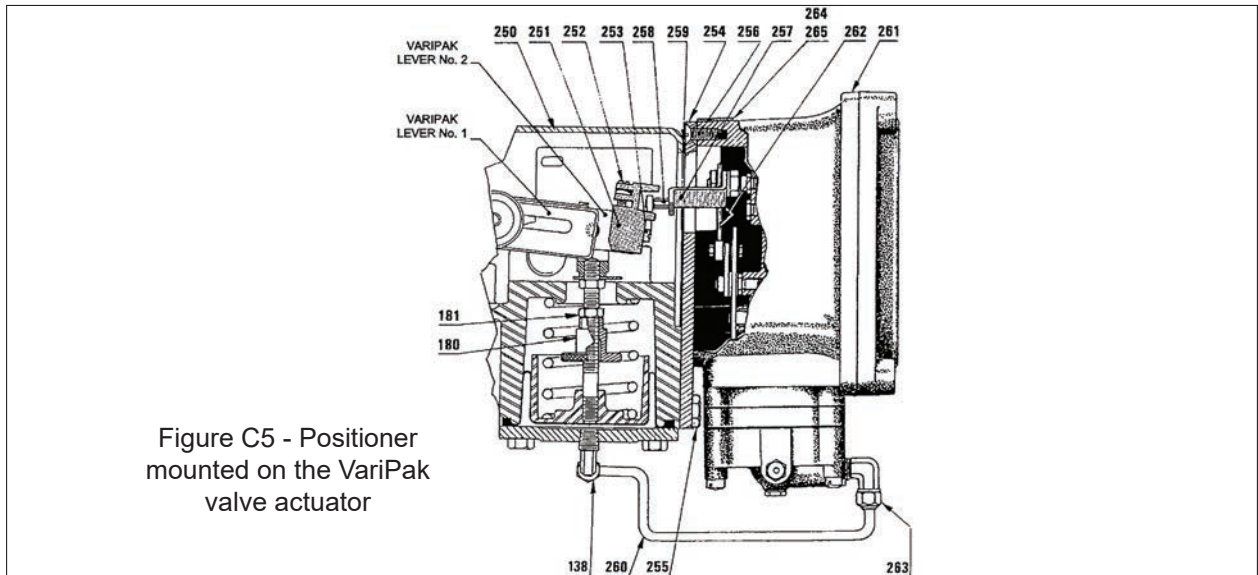
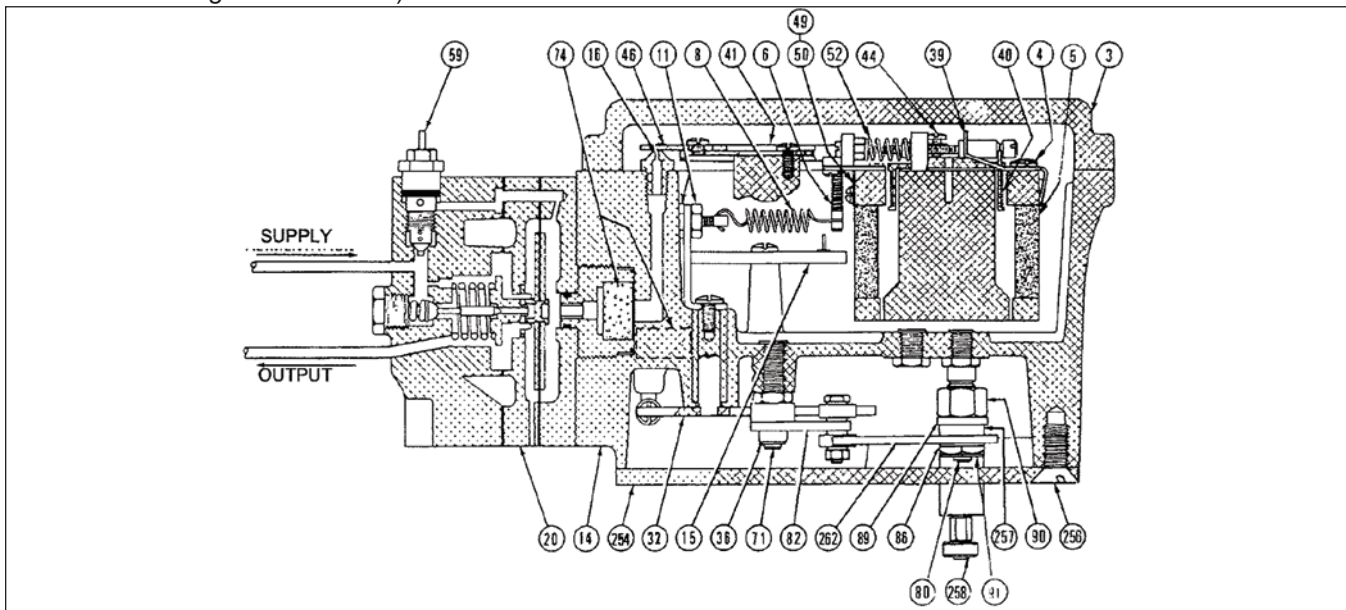

Figure C5 - Positioner mounted on the VariPak valve actuator
Figure C7 - Sectional view of the positioner
- Using a 6 mm fork wrench loosen the bearing shaft (258) and pull it out.
- Remove three pan head screws (256) and support plate (254) (figure C7).
- Remove retaining ring (91) and pull out the cam/rear lever S/A from the bearing post (80). Remove the cam from the rear lever by loosening nut (90) using a 13 mm fork wrench.
*Note: Apply a little quantity of grease on the bearing post (80).*
## Fastening (see Figure C5)
**Note:** When installing, ensure that the bearing (258) is correctly positioned in the coupling (251) mounted on the end of the VariPak valve lever No. 2 (see figure C5).
- Check if the position of the force-balanced spring (8) corresponds to the valve action. Turn adjusting screw (6) in order to bring the spring (8) approximately in the parallel position with the joint plane of the case and cover (see figure C7).
- Air-to-close valve: Apply to actuator a pressure approximately equal to the supply pressure by covering the nozzle with the flapper. In order to do it, apply a signal greater than the maximum value and/or turn the screw of the biasing spring (52). Set comparator to zero.
2. Loosen screw (253) using a special 4 mm Allen wrench (length of a small leg: 10 mm) and turn coupling adjusting screw (252) so that the coupling (251) is adjusted in its lowest position on air-to-open valve or in its highest position on air-to-close valve (see figure C5).
4. Turn coupling adjustment screw (252) until the comparator pointer indicates the mid-stroke position of the plug stem. Tighten set screw (253) (see figure C5).